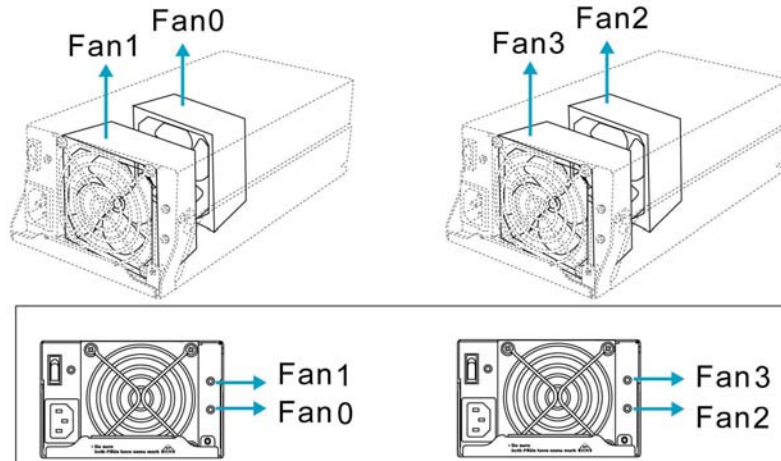

Figure 3-7: Cooling Module LEDs and Cooling Fan Locations
Each individual cooling fan within the cooling module has one (1) red LED on the PSU module. The LED corresponds to the single fan in the cooling module. (See *Figure 3-7*) When the LED is on, it indicates the fan has failed. When the LED is off, it indicates the fan is functioning properly.